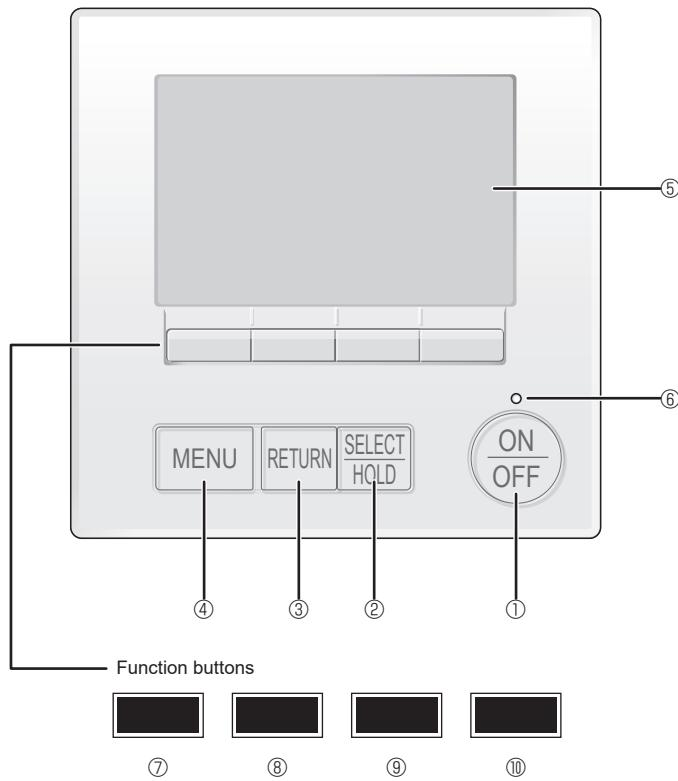

Fig. 6-1
6.2.1. Using wired MA remote controller (Fig. 6-1)
① [ON/OFF] button